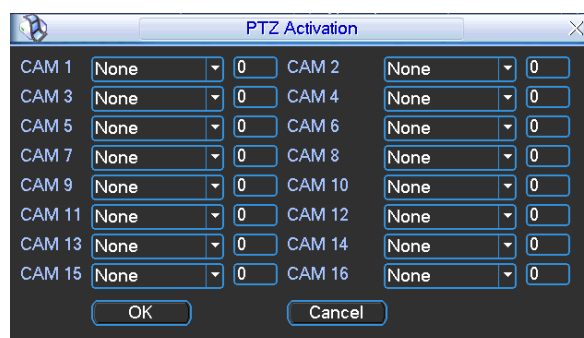

Figure 4-29
- PTZ activation: Here you can set PTZ movement when alarm occurs. Such as go to preset, tour& pattern when there is an alarm. Click "select" button, you can see an interface is shown as in Figure 4-29.